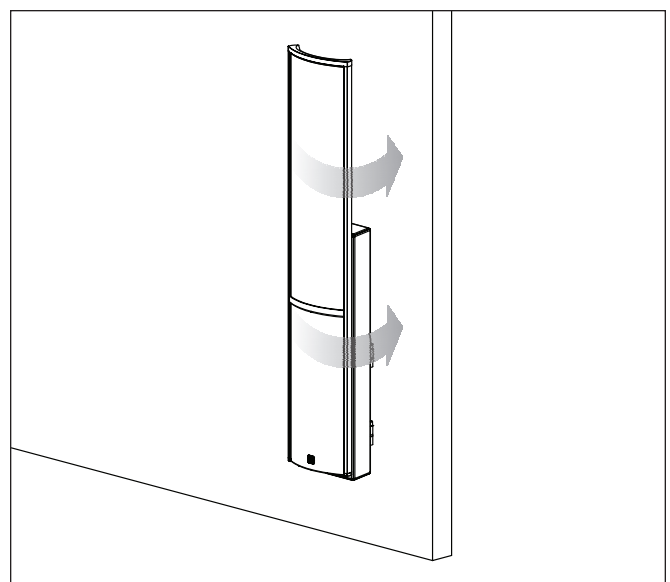

Figure 8. Step 12
- 12 Rotate the EFX to point at the listening position and tighten the cap nuts (see figure 8).